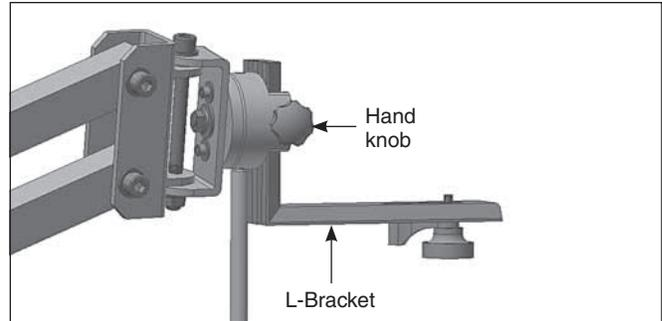

Fig. 2.2.
2.2. For binoculars use the supplied L-bracket (part 4). Install the included hand knob to securely fasten the L-bracket as shown in **Fig. 2.2**.